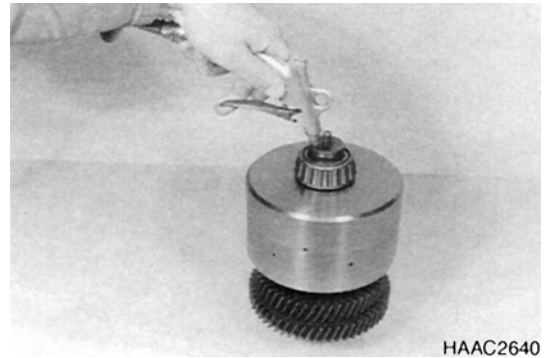

Figure 210
2. Install plate pack according to Figure 210.